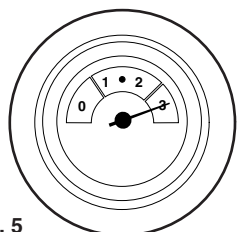

Fig. 5
3. A pressure of 3 or greater indicates a fault. The safety pressure relief valve will operate, at a pressure of 3 (Fig. 5). It is important that your Service Engineer is contacted as soon as possible.